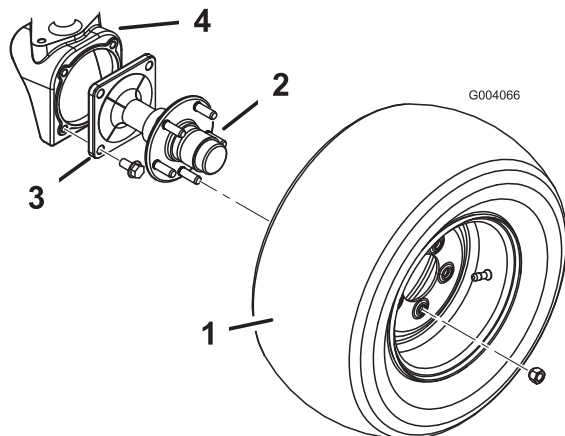

Figure 1
2. Remove the 5 lug nuts securing each rear tire to the wheel spindle hub (Figure 1). Remove the tires.
3. Remove the 4 flange bolts securing each wheel spindle to each wheel housing (Figure 1). Remove the wheel spindles. The wheel hub does not need to be removed from the spindle.